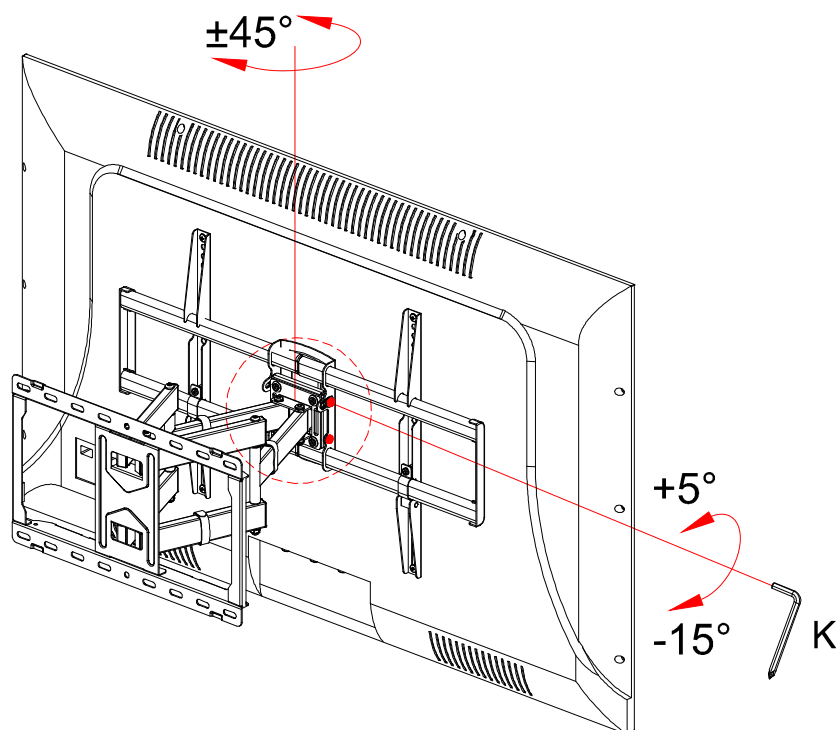

Figure 8
Step 7: You may need loosen the screws to tilt TV to your desired angle, please remember to fasten the screws tightly after adjustment. (Figure 8)